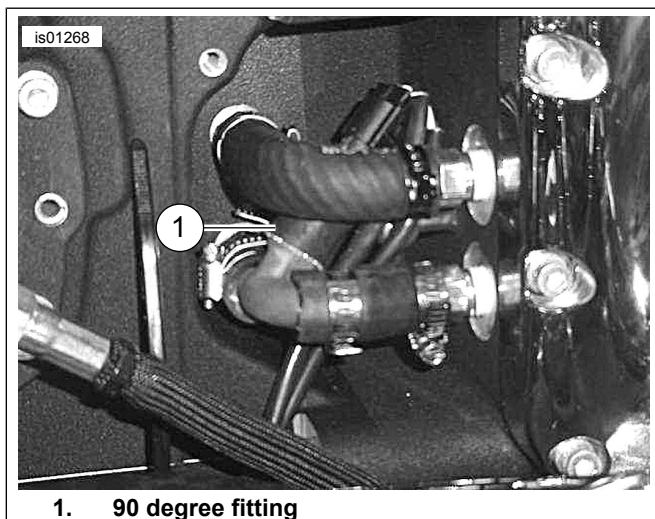

Figure 5. Dyna and FLHR Sending Unit
3. See Figure 17 and Figure 5. Fit the 90° fitting (14) and sending unit (17) to the supply (feed) hose (Figure 5, Item 1).
5. Using hose (13) from kit, cut and fit 1-1/2 in. (38.1 mm) segment to one end of 90° fitting and 1-1/2 in. (38.1 mm) segment with worm gear clamp (11) to other end.